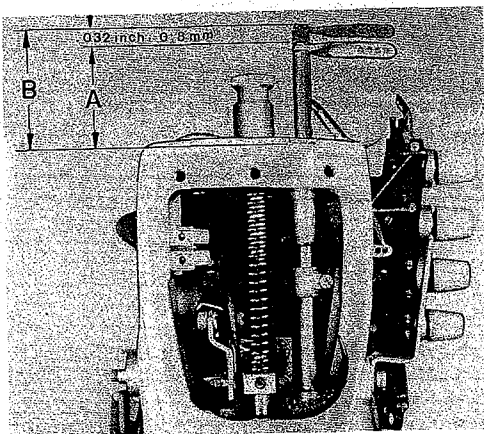

Fig. 31
2. Rotate the handwheel clockwise until the looper has moved 10 mm = .40 inch from right to left (Fig. 31 A).